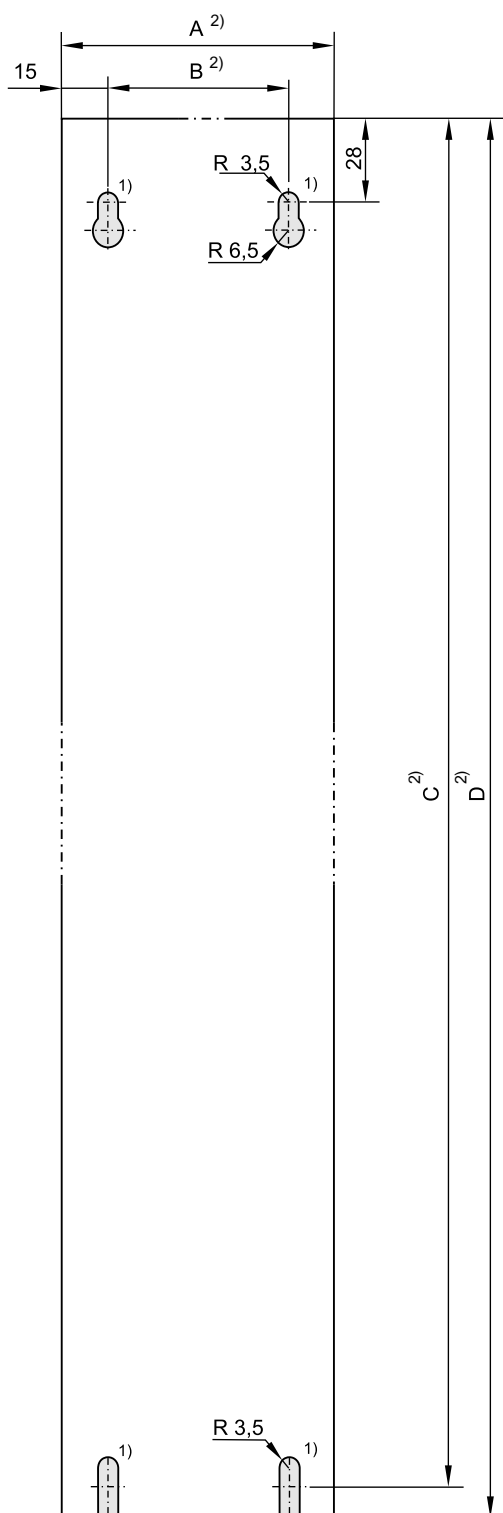
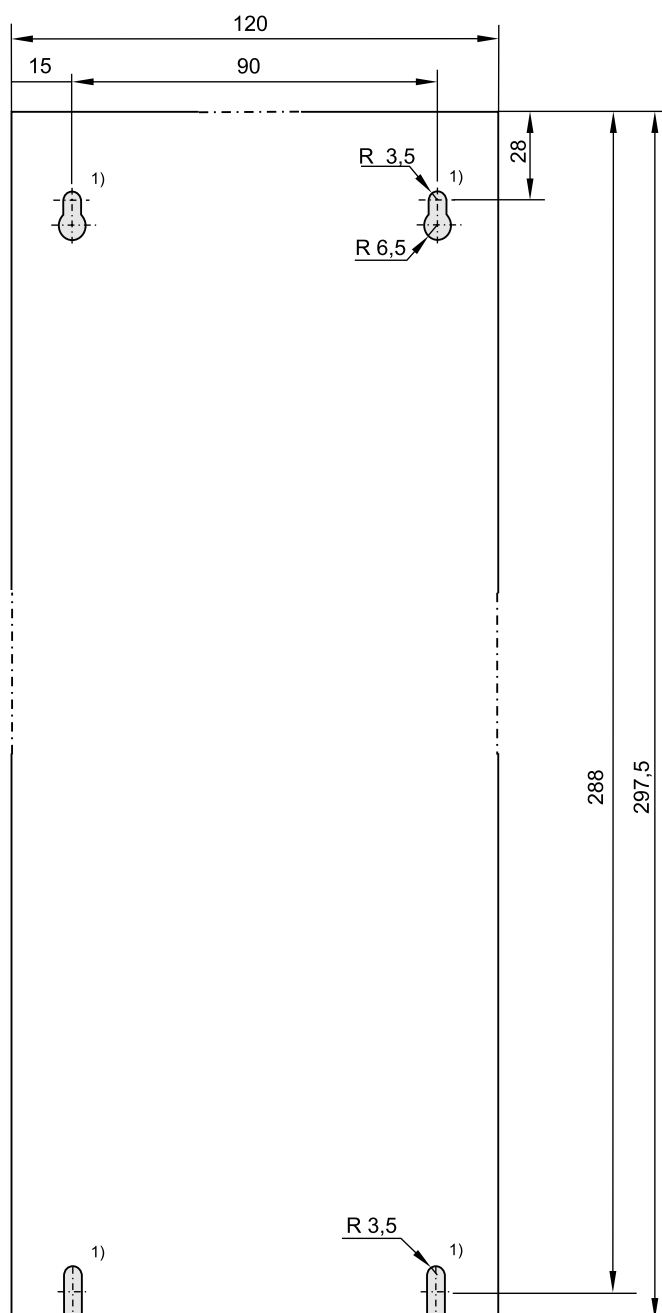

Figure 40: Drilling template
Figure 41: Drilling template
- Mark the four bores for the retaining threads on the mounting platform for each unit according to figure 40 and figure 41 and the table listed below. Make the bores with a tolerance according to ISO 2768-mK.